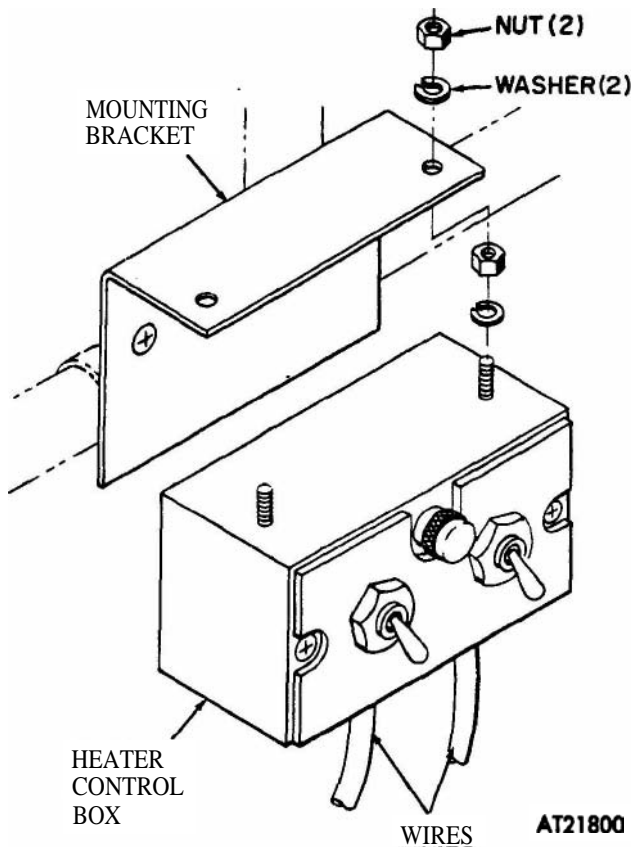

Figure 2-147. M792 ambulance heater control box.
(1) Disconnect connector and shell connector from heater control box (fig 2-147).
(2) Remove heater control box from mounting bracket by removing two nuts and washers from studs on box.